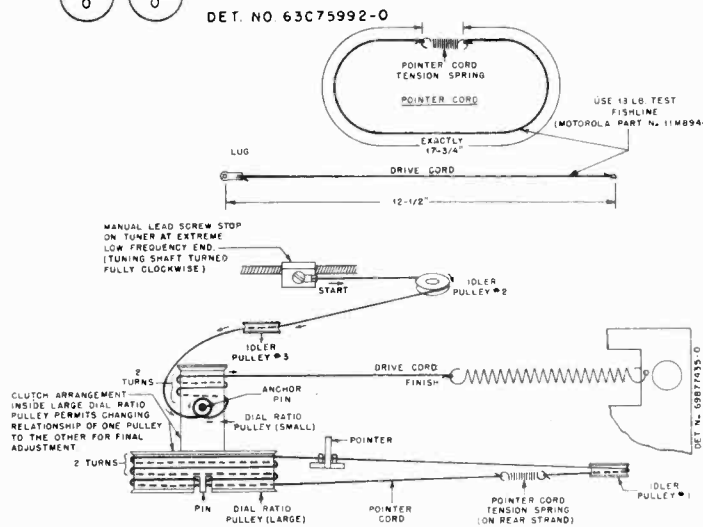

FIGURE 1. POINTER AND DRIVE CORD RESTRINGING DETAIL
1. Make up the pointer cord as shown in Figure 1. The ends are tied to the pointer cord spring. IT MUST MEASURE 17-3/4" FROM ONE END OF THE SPRING TO THE OTHER AFTER BEING TIED. Secure the knots with a drop of shellac or household cement.
2. Restring as shown in Figure 1.
1. Make up the drive cord as shown in Figure 1. Secure the knots with a drop of shellac or household cement.
3. Restring as shown in Figure 1.